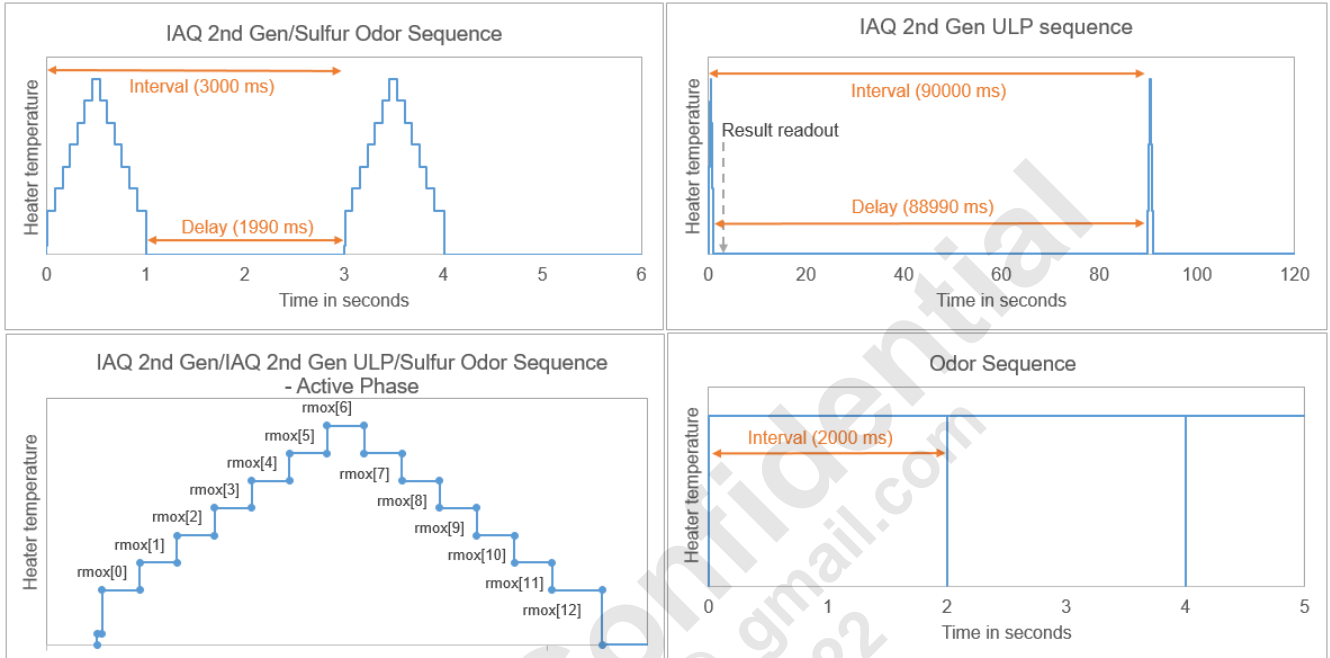

Figure 3. Measurement Sequences
- Modes IAQ 2nd Gen, IAQ 2nd Gen ULP, and Sulfur Odor: Additionally an interrupt timer to start each measurement with the measurement interval (see Figure 3) is needed.
- Modes IAQ 2nd Gen, IAQ 2nd Gen ULP and Sulfur Odor: Additionally the measurement must be started periodically with the corresponding measurement intervals (see Figure 3). The timing deviation should be below 5%. Another option for these modes is to use just one timer interrupt with the measurement interval. Then, the ADC result read-out, error check, and algorithm calculation is done just before starting the next measurement.